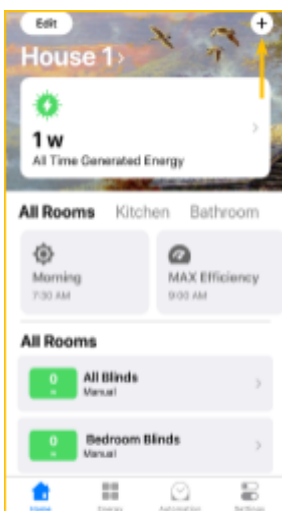

Figure 20
10.6.1. Click + in the top right corner to start (Fig. 20).